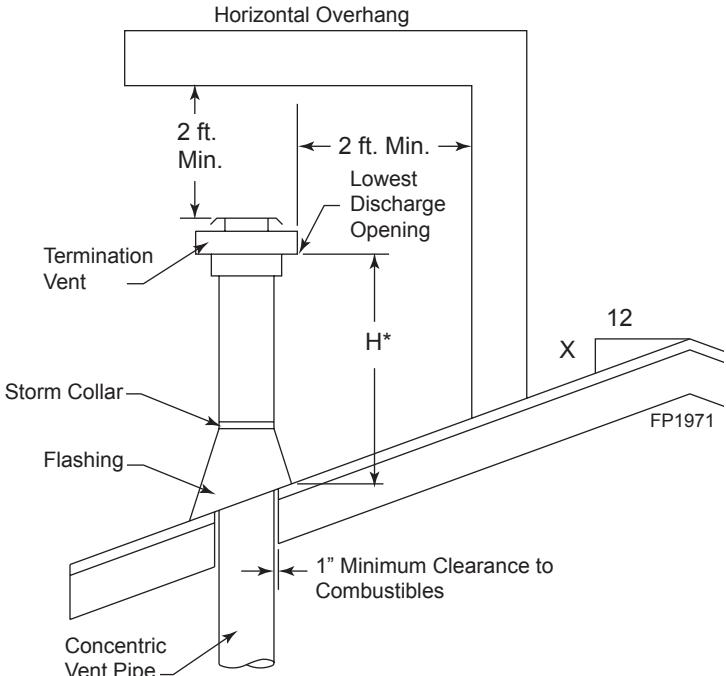

Figure 38 -
- For the minimum height of the vent above the highest point of penetration through the roof refer to *Figure 38*, Page 26.